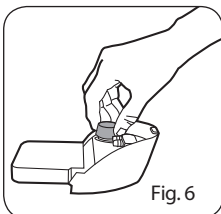

Fig. 6
2. Remove the cap from the top of the cleaning agent tank (Fig. 6).
4. Install the cap back (Fig. 6).